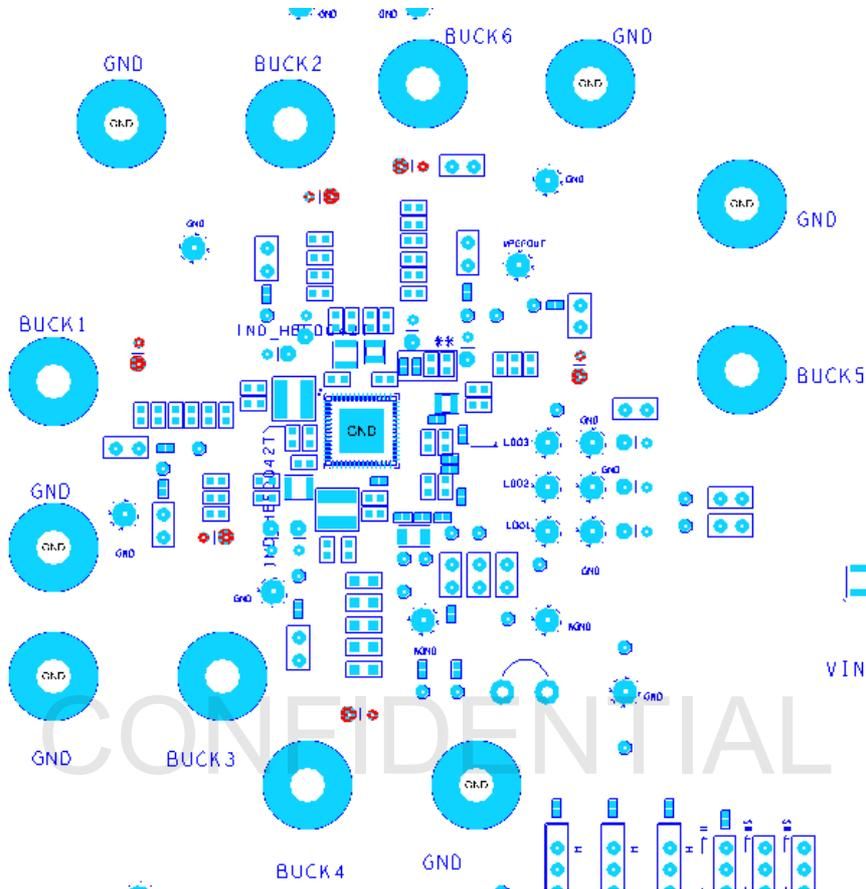

Figure 9. Locations for Measurement of Buck Regulator Output Voltages
4. Figure 9 shows locations on the PCB where the buck regulator output voltages can be measured accurately. For each buck regulator, there is a pair of pads with holes to which wires, pins, or connectors can be soldered, or an oscilloscope probe can be connected. The larger of each pair of pads is the positive; the smaller pad is ground.